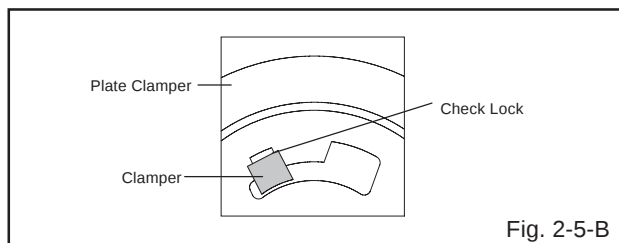

Fig. 2-5-B
2-5: CLAMPER ASS'Y (Refer to Fig. 2-5-A)
1. In case of the Clamper Ass'y installation, install correctly as Fig. 2-5-B.